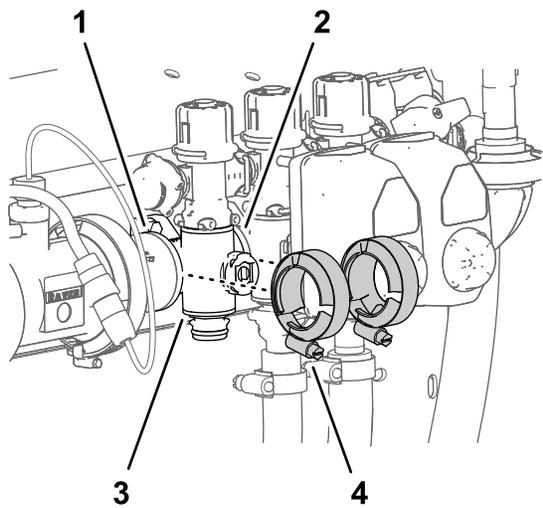

Figure 121
3. Remove the 2 flange clamps that secure the section-manifold valve to the flanges of the adjacent components (Figure 121).